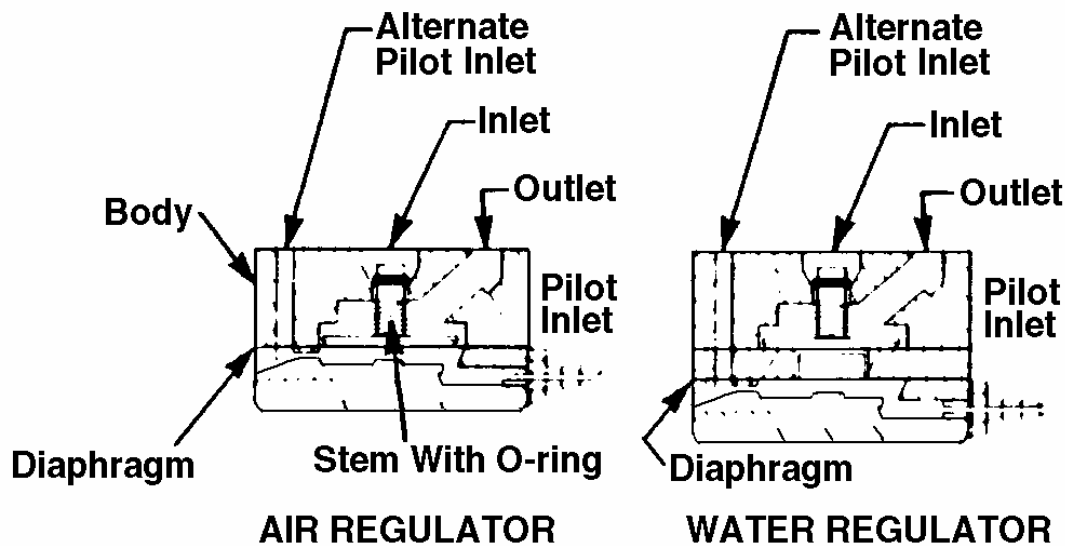

Figure 5-2. Pilot-operated regulators.
- (d) If air bubbles still appear in the water system, refer to (2) below.
- (2) Determine if there is a hole in the water regulator diaphragm. Refer to figure 5-2.